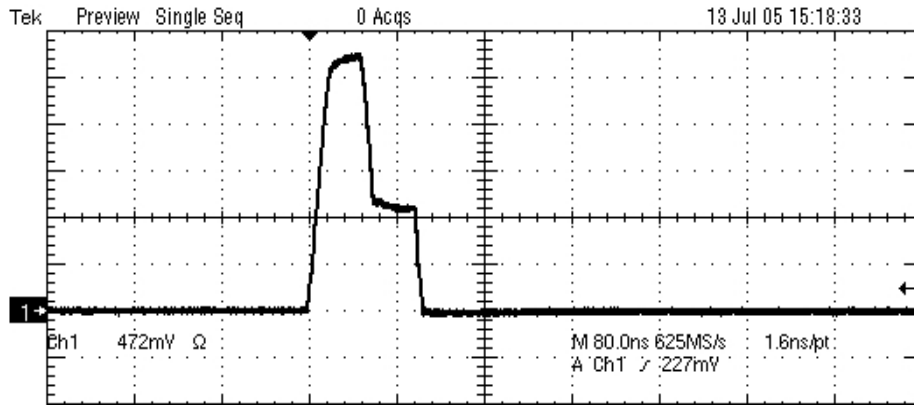

Figure 5. Link Pulse Timing Waveform (100ns and 1.5V p-p)
9. Measure the normal link pulse waveform on either TX+/- or RX+/- every 16ms while the cable is not connected, as shown in Figure 5.